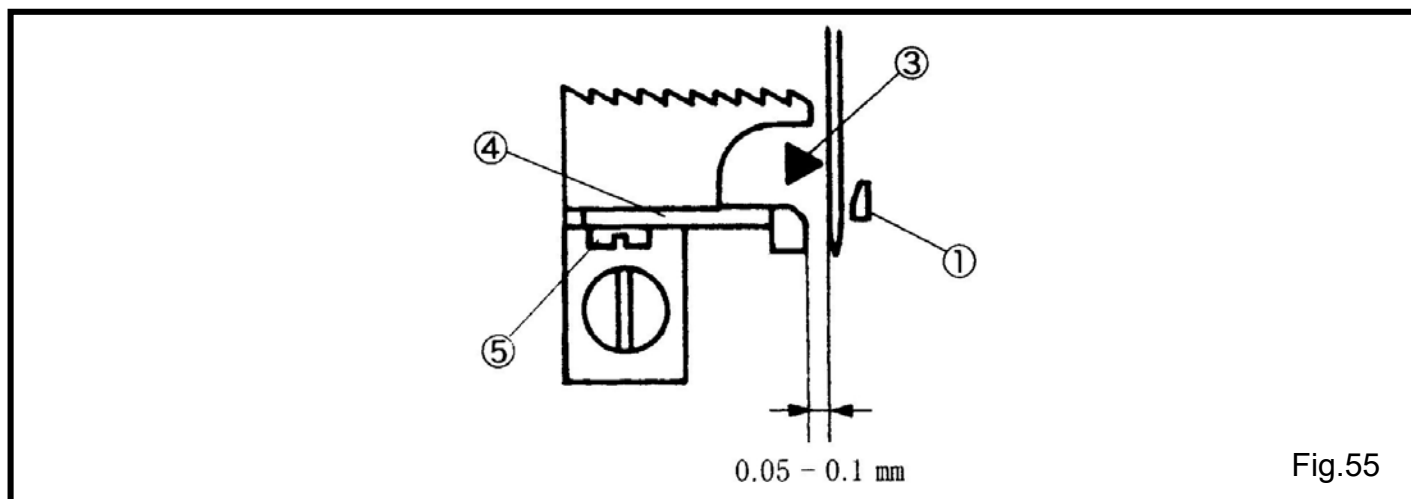

Fig.55
當後針檔④和針最靠近的時候，要有 0.05-0.1mm 的間隙。由螺絲⑤去調整。(Fig.55)
Make the standard clearance between the needle guard (rear) ④ and the left needle to 0.05-0.1 mm when they meet most closely. Open the looper cover and loosen the screw ⑤ to adjust it. (Fig.55)